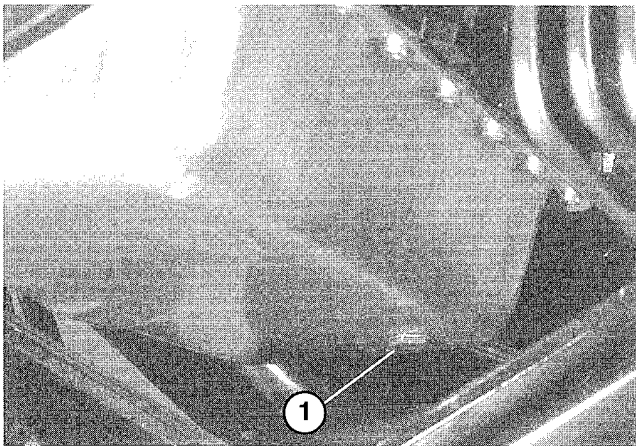

Figure 39
ENGINE OIL AND FILTER (Fig. 39–40)
1. Remove drain plug (Fig. 39) and let oil flow into drain pan. When oil stops, install drain plug and new plug seal, Part No. 74–7850.